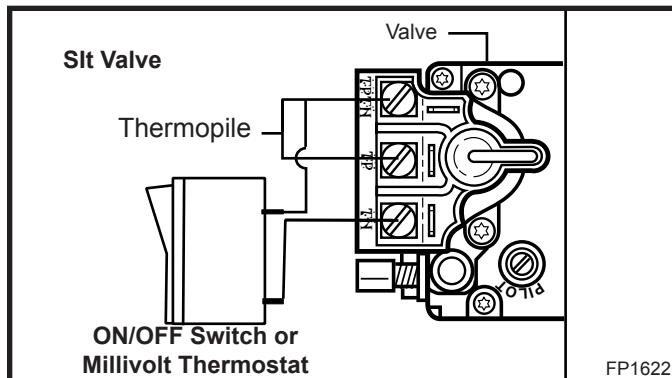

Fig. 51 Install wiring to switch before connecting to valve.
3. Attach wires to valve terminals. (Fig. 51)
2. Connect the thermostat wires to the valve. (Fig. 51)